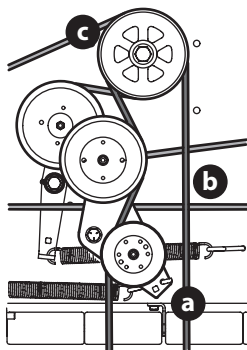

Figure 56
3. Using a 1/2" drive in the idler pulley bracket (a), turn the wrench towards the right of the mower and slide the PTO belt (b) off the PTO pulley (c) (Figure 56).